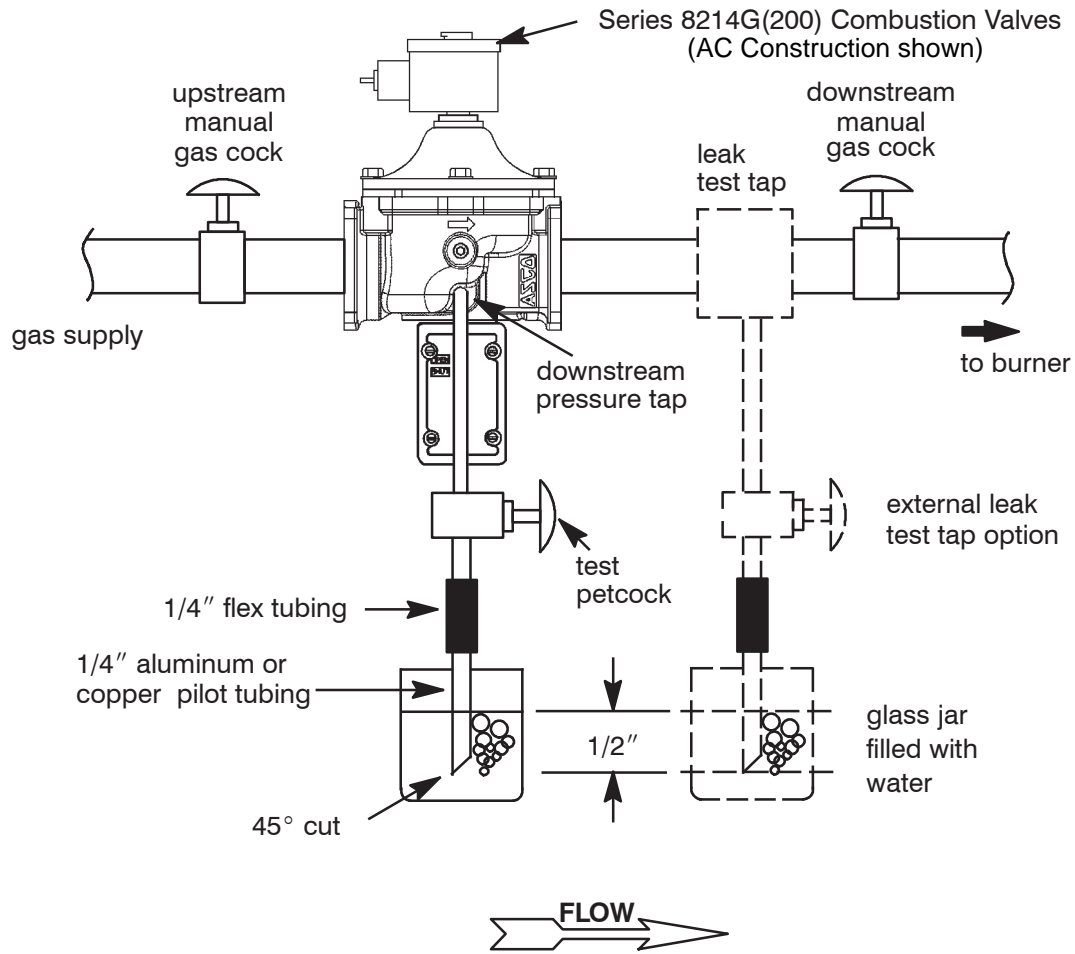

Figure 5. Testing for Internal Seat Leakage
Testing for Internal (Seat) Leakage (see Figure 5)
4. Shut off the upstream manual gas cock and de-energize valve. Remove the plugs from the leak test tap or downstream pressure tap in the valve body. Connect leak test equipment with the test petcock in the closed position (Figure 5).